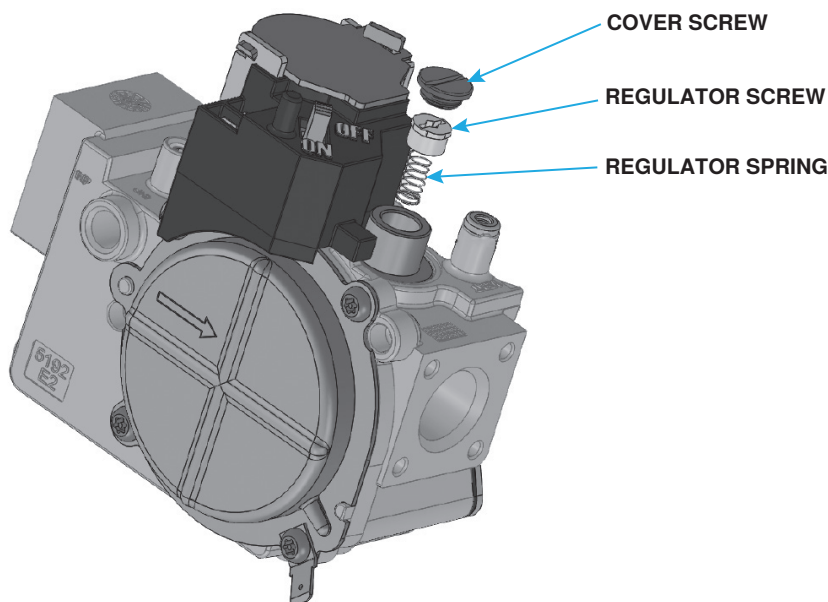

Figure 3. Regulator Spring Replacement
- b. Remove cover screw, regulator screw, and existing regulator spring from combination gas valve's regulator sleeve (see Figure 3).